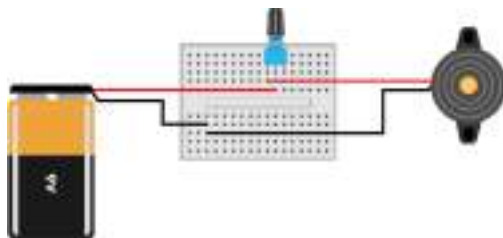

Figure 2-3. *Circuit diagram for buzzer volume control*
1. Orient your breadboard so that it is wider than it is tall, as shown in Figure 2-3.